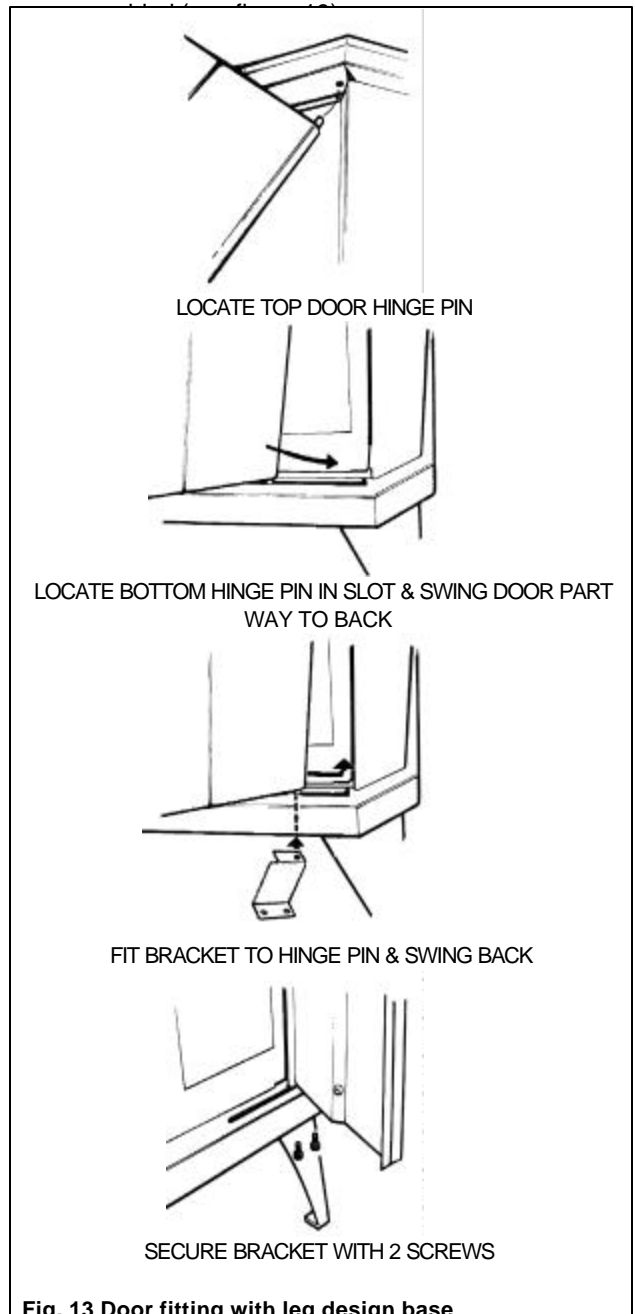

Fig. 13 Door fitting with leg design base
- 9.2.9.1 Locate the hinge pin at top of the door into the hole at the top of the door aperture (see figure 13).
- 9.2.9.2 Locate the hinge pin at bottom of the door into the slot in the base. Swing the bottom of the door part way to the back. A new door retaining bracket is supplied with the leg and facia kit. Hold this bracket under the bottom of the base side. Position it with the two holes at the bottom and locate the single hole over the bottom door hinge pin (see figure 13).